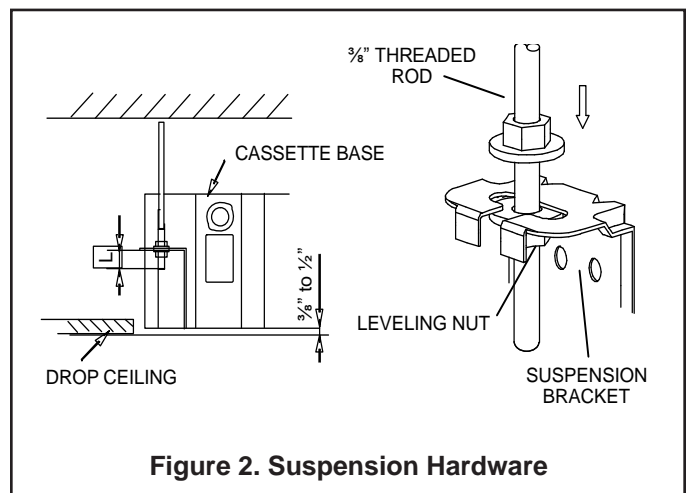

Figure 2. Suspension Hardware
4. **Make sure that the structural ceiling is able to support the weight of the cassette unit. It may be necessary to add extra support.** If the structural ceiling is constructed of concrete, install anchors to accept four  $\frac{3}{8}$ " threaded rods to suspend the cassette base. If the structural ceiling includes wooden joists, use angle iron or a Unistrut channel fixed securely in place to accept the  $\frac{3}{8}$ " threaded rods. **NOTE - Threaded rod (requirement of Lennox warranty program) is the ONLY acceptable method of suspending the unit; do not use chains or straps.** See Figure 2.